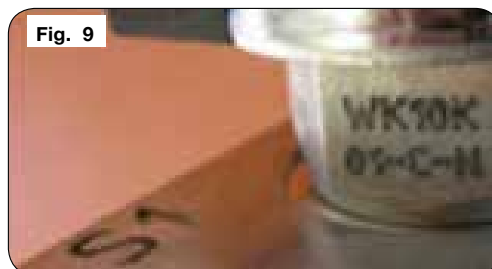

Fig. 9
1. Verify the cartridge part numbers are installed in the correct ports of the manifold. Look at the wrench flats of the Accu-Load manifold to find the part numbers. (Fig. 9, 10 & 11)